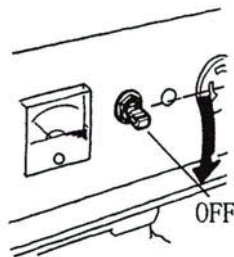

Fig. 34
6.2.1 Turn off the AC breaker and unplug all the loads (Figure 34)